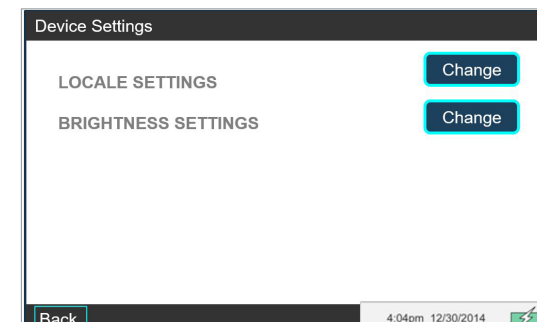

Figure 20 Device Settings Screen
- To set the time and date or select units for height and weight, press **Change** next to **LOCALE SETTINGS** on the **Device Settings** screen (see Figure 20).
10. To change the screen brightness, from the **Device Settings** screen (see Figure 20) press **Change** next to **BRIGHTNESS SETTINGS** to go to the **Adjust Brightness** screen.